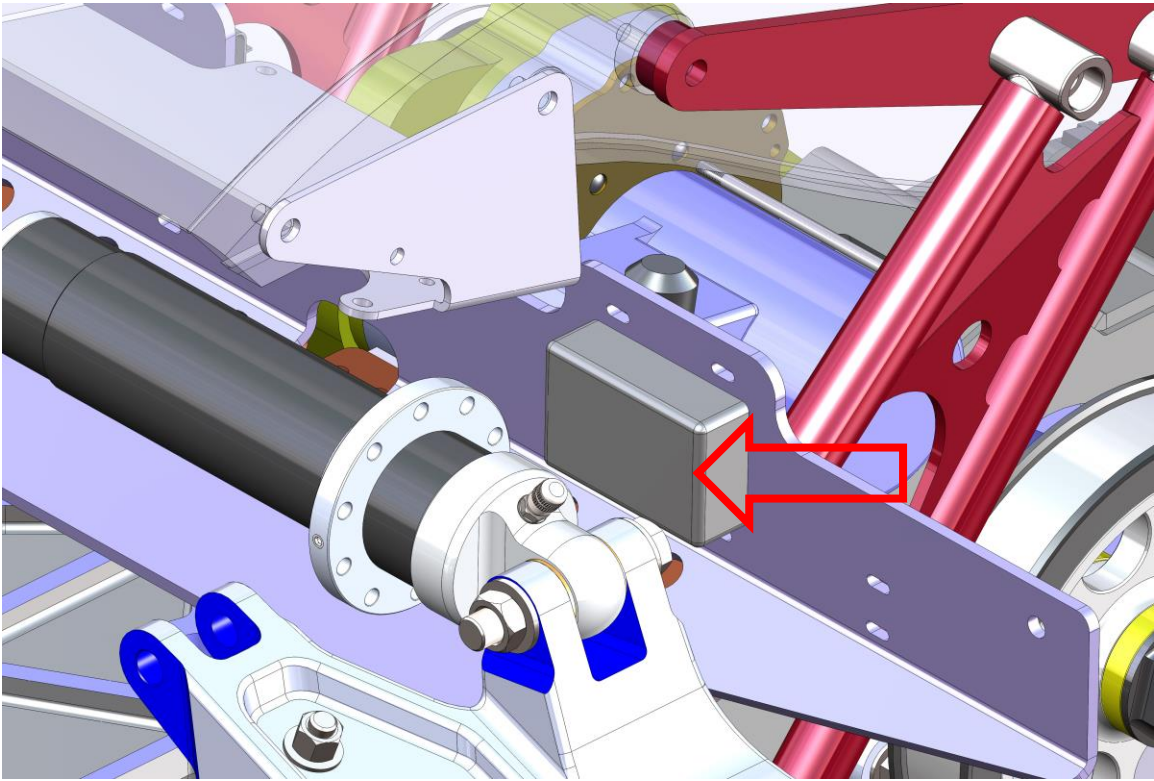

fig 3
1. Install ABS signal module on Trike Cross Mt. with two sided tape and zip ties included (see fig 3).